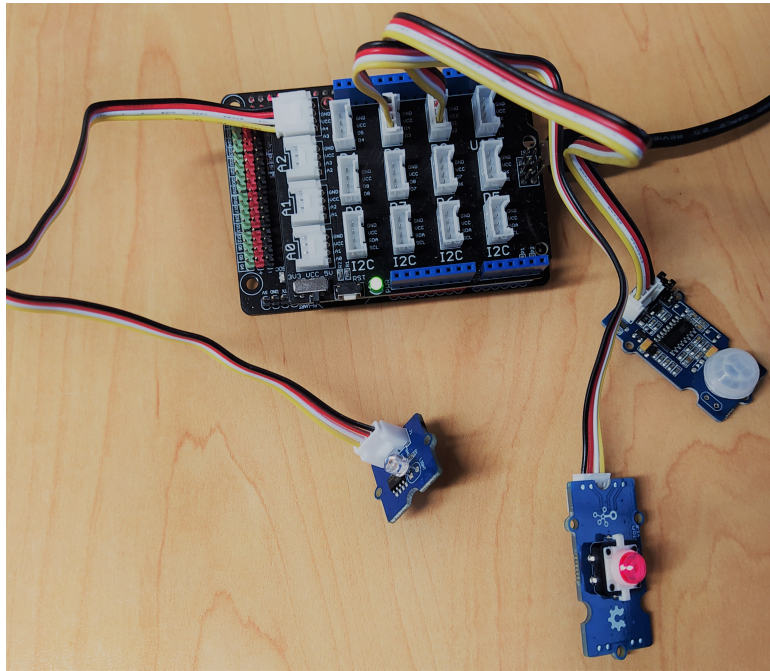

Figure 1.3: Final Setup
7. Now **verify** (the top left tick icon ) and **upload** the given code. After you upload it the LED button should start blinking. When you press and hold the button, the LED should stop blinking. Your final setup should be as in Figure 1.3.